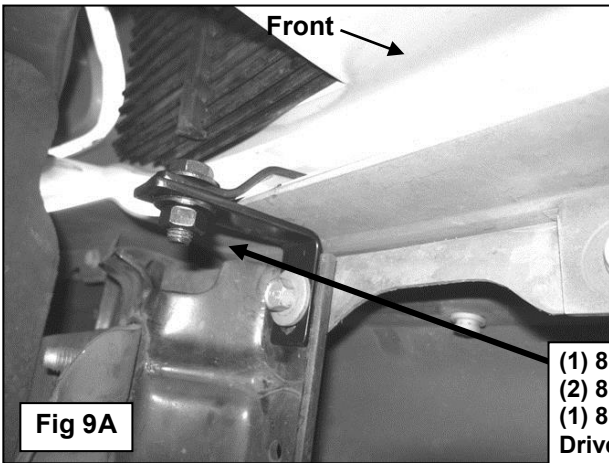

Fig 9A
6. Bolt the Top Mounting Bracket to the "L" Top Support Bracket installed in **Step 4** using (1) 8mm Hex Bolt, (2) 8mm Flat Washers and (1) 8mm Nylon Lock Nut, (**Figures 9A & 9B**). Do not tighten at this time. Repeat this step for passenger side Top Bracket installation.